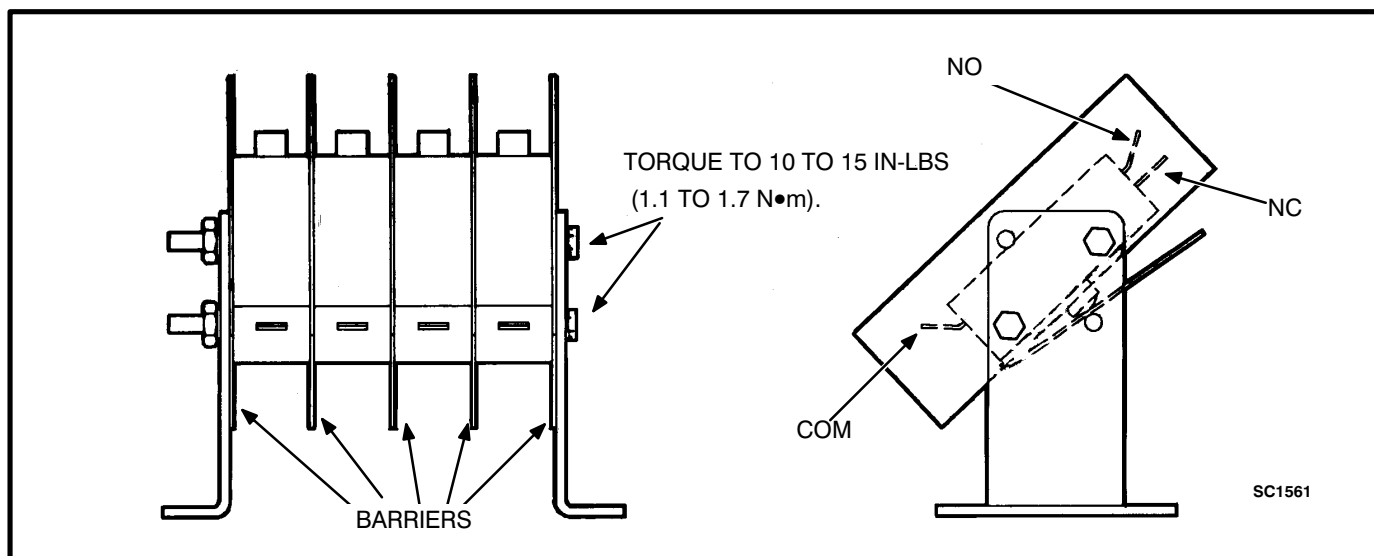

FIGURE 4-15. AUXILIARY SWITCH (300 TO 600 AMPERES)
4. Remove the control wiring leads from the auxiliary switch terminals (Figure 4-15).
7. Remove the hex head machine screws and nuts that secure the auxiliary switches to the bracket (Figure 4-15) and lift out the auxiliary switches and insulating barriers.